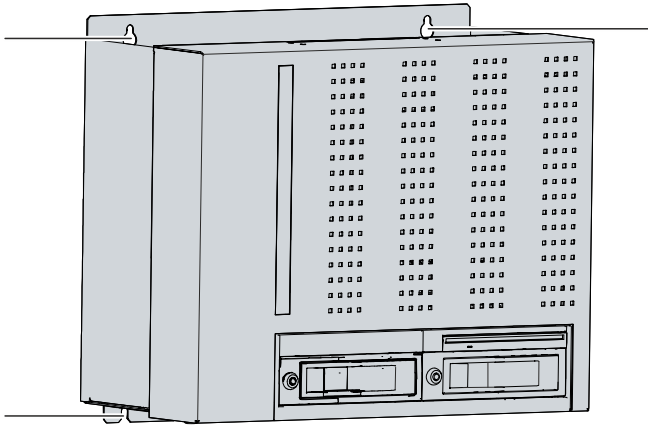

Fig. 25: C6650\_positions fastening screws
2. Lift the PC far enough so that the fastening screws slip into the keyholes (see fig. 25).